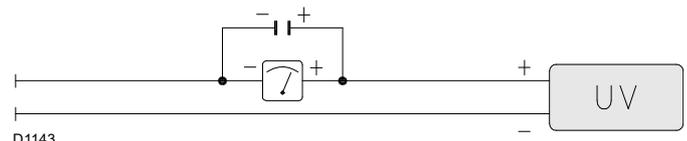

Fig. 44
7.2.4 Electrical current to flame sensor (Fig. 44)